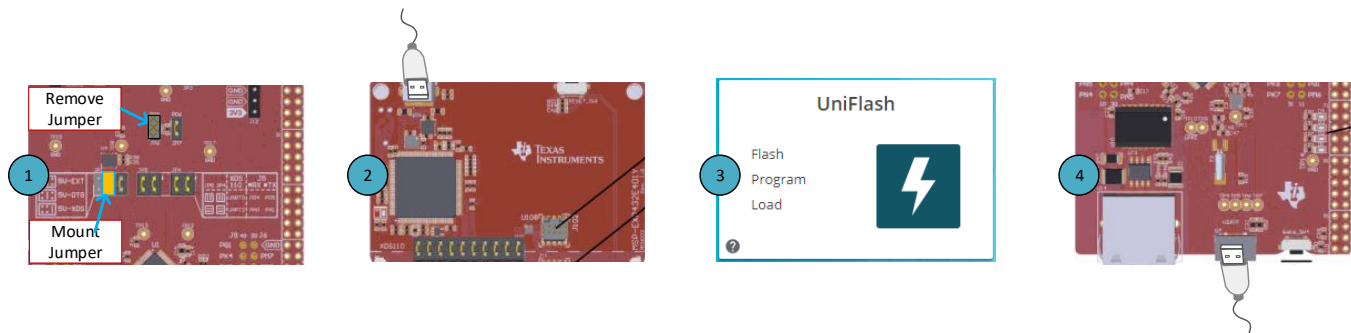

Figure 3. Launchpad Setup
1. Remove jumper JP6 on the launchpad, as shown in step 1 of Figure 3.
2. Mount the jumper on 5V-OTG. Retain the jumper on 5V-XDS, as shown in step 1 of Figure 3.
3. Connect the USB cable to the port on the XDS110 side of the board, as shown in step 2 of Figure 3.